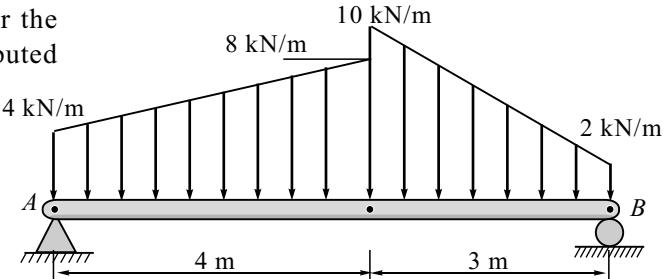

Fig. 3.E39
40. The beams AB and CF are arranged as shown in Fig. 3.E40. Determine the reactions at A , C and D due to the forces acting on the beam.